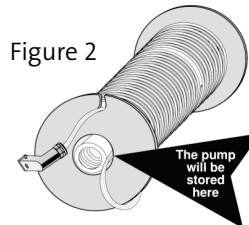
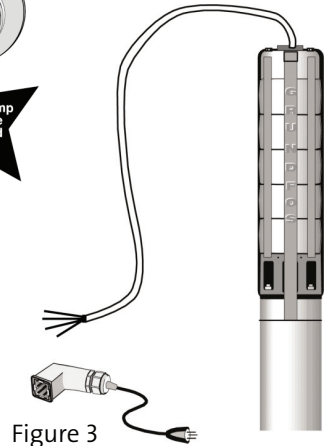

Figure 2
Figure 3
2. Either a Redi-Flo2® (MP1) pump and motor with lead (Figure 2) or a Redi-Flo4™ (SPE) Variable Performance pump, motor, lead, lead/plug and RF4 x VFD adapter cord (Figure 3)